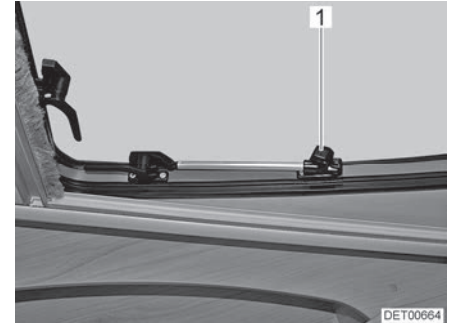

Fig. 37 Roof window with rotary hinges, open
- Open the roof window until the required position has been reached and use knurled knob (Fig. 37,1) to secure in position.
- Turn knurled knob (Fig. 37,1) until the latch is released.